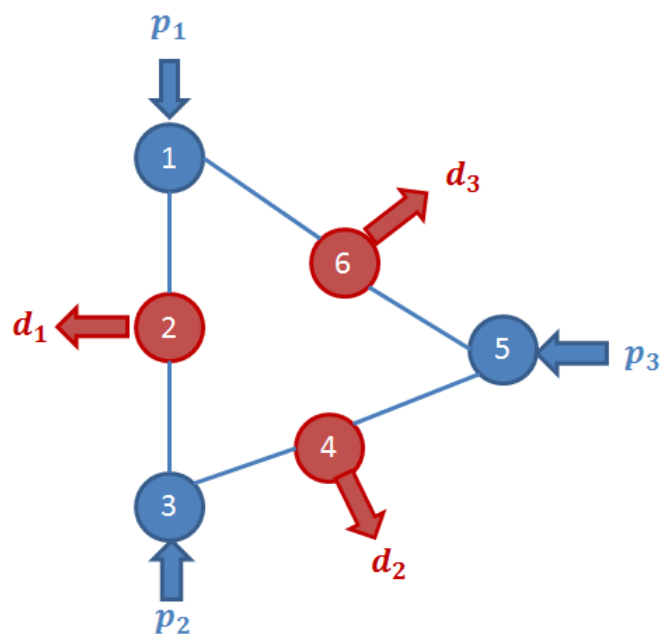

Figure 2: Electric network for Question 3.
3. Consider the following electric power network shown in Figure 2. This network is taken from a real-world electric power system. Electricity generators are located at nodes 1, 3, and 5 and producing p_1, p_2, p_3 amounts of electricity, respectively. Electricity loads are located at nodes 2, 4, and 6 and are consuming d_1, d_2, d_3 amounts of electricity, respectively.